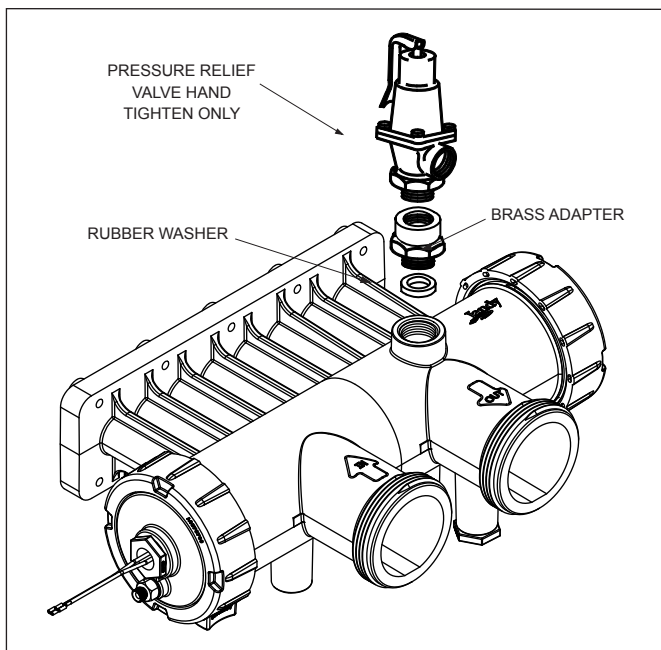

Figure 14. Pressure Relief Valve Installation
6. Install the rubber washer at the bottom of the hole. See Figure 14.